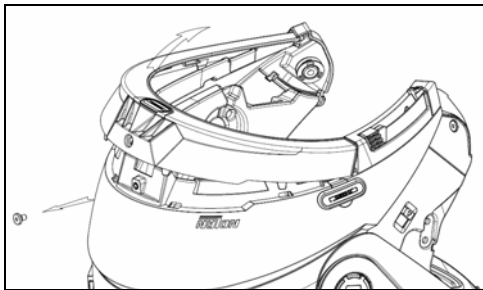

Fig. 2
- Completely remove the gasket as shown in Fig. 2; by doing so you also remove the padding.